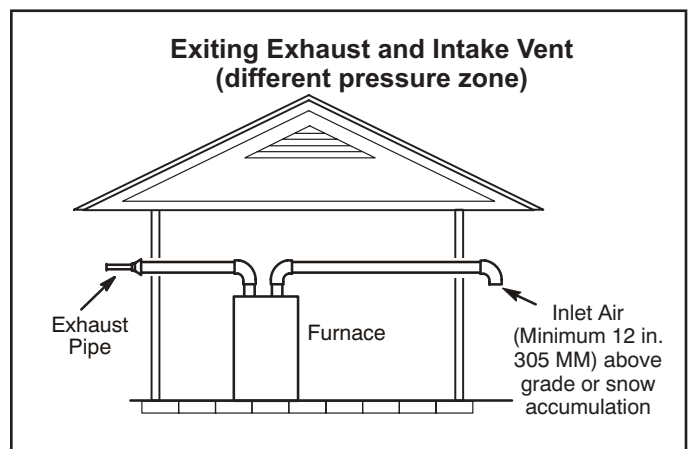
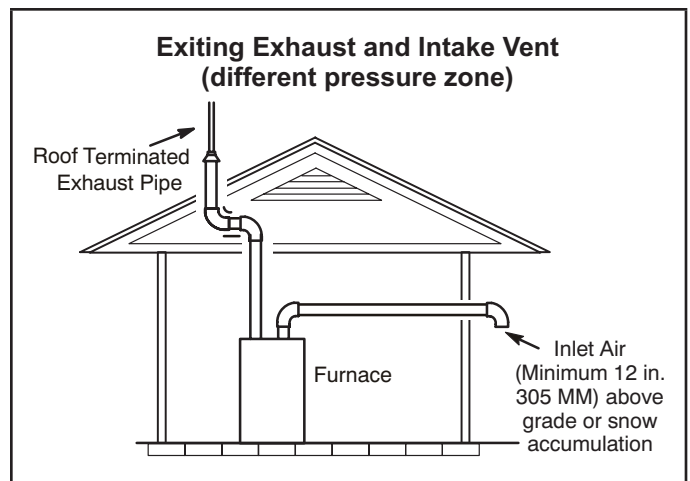

FIGURE 31
FIGURE 32
- 1 - Vent terminations are not required to be in the same pressure zone. You may exit the intake on one side of the structure and the exhaust on another side (FIGURE 31). You may exit the exhaust out the roof and the intake out the side of the structure (FIGURE 32).